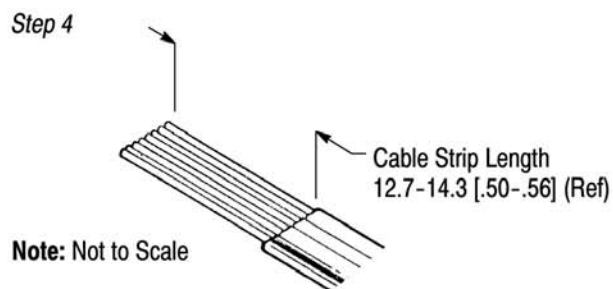

Figure 4
3.1. Unshielded Flat Oval Cable (Figure 4)
4. Check cable strip length as shown in Figure 4.